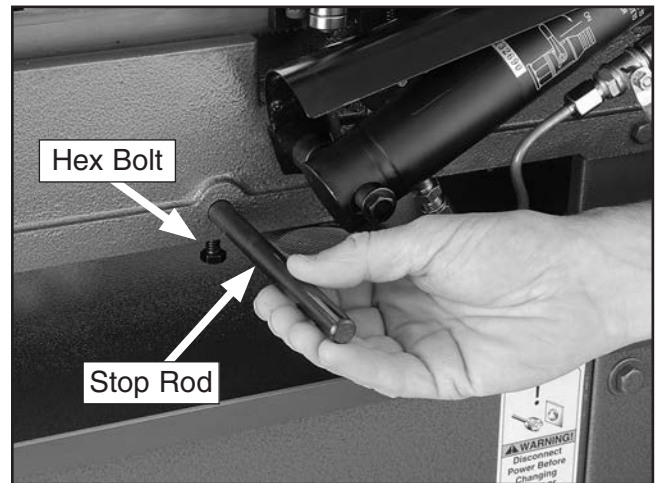

Figure 6. Installing work stop rod.
1. Insert the work stop rod through the hole in the base shown in **Figure 6** and lock in place with the hex bolt.